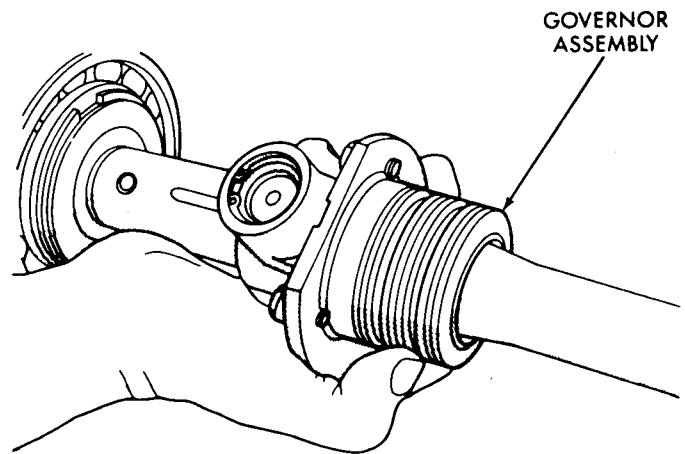

Fig. 10—Governor Assembly
(7) Remove governor retaining snap ring. Remove governor and shaft key (Fig. 10). This will prevent damaging governor when the direct clutch spring is compressed in an arbor press. Set gear train aside and continue disassembly of case components.